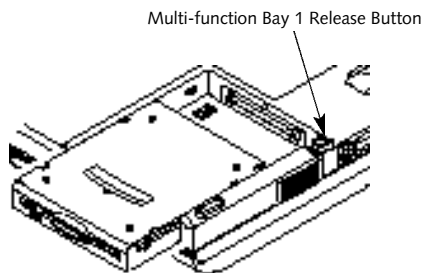

Figure 4-2 Removing and Installing a Device in Multi-function Bay 1
5. With the module connector toward the back of your notebook align the grooves on the side of the device with the tracks in the side of the bay. (Figure 4-2.)